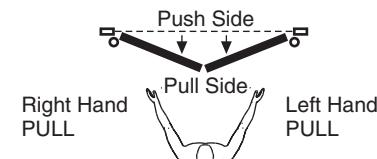

Figure 2
- Determine if push or pull and if left hand or right hand installation. (Figure 2)